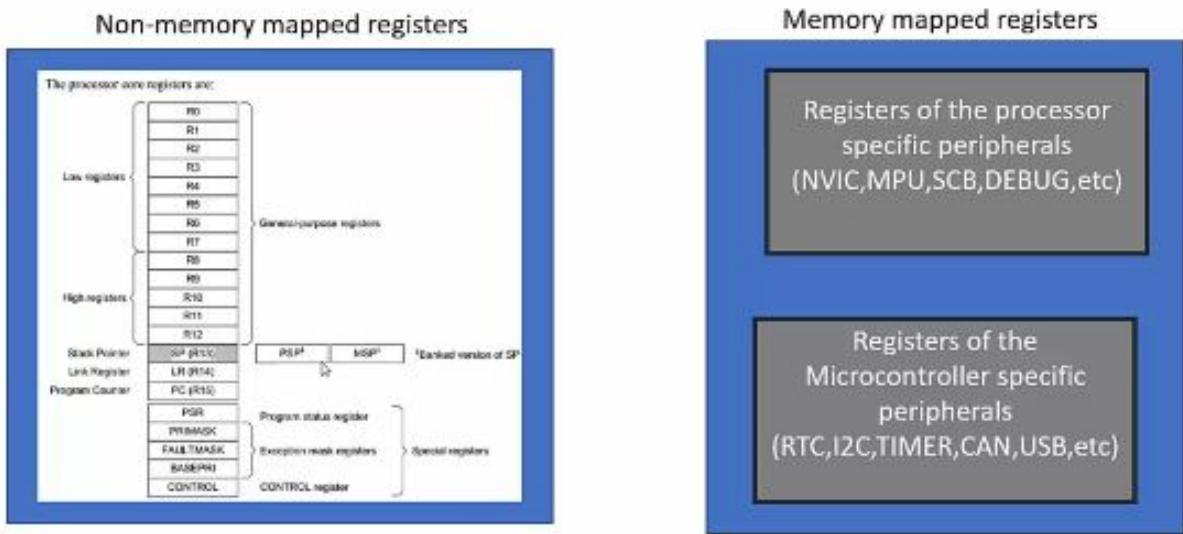

Figure 4.8: PSR registers
- PSR: is the combination of the 3 different register as shown in Figure 4.8